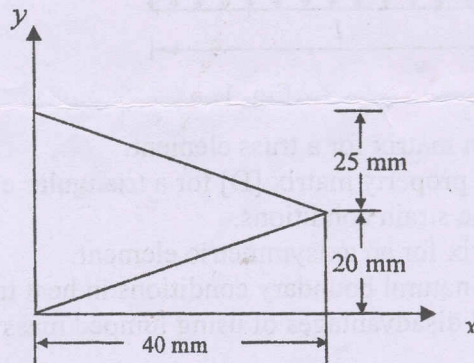

Fig. 3
13. For the two element plate shown in fig.3, determine the strain displacement matrices for the two elements. (10)